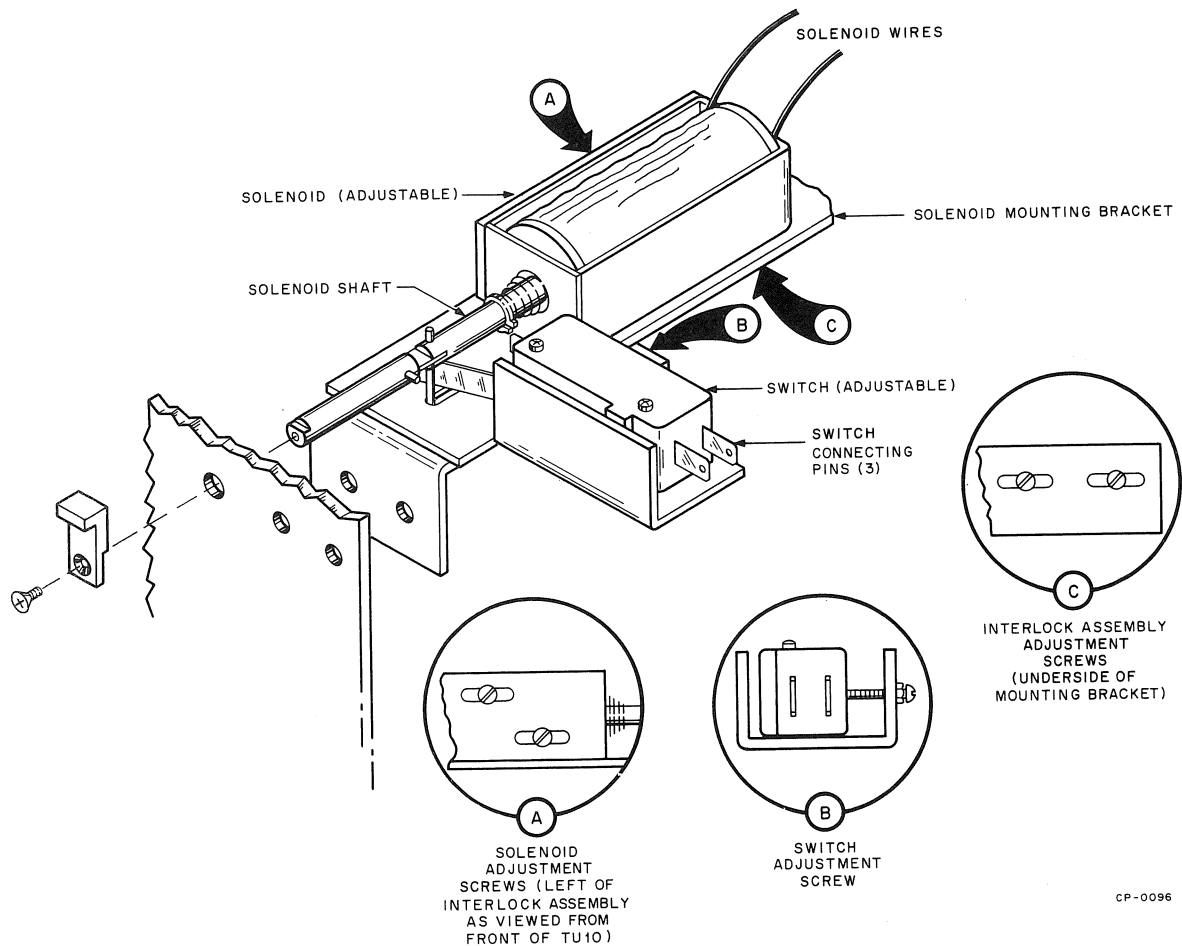

Figure 5-32 Read/Write Interlock Assembly
To perform the following adjustment, refer to Figure 5-32:
2. Loosen the locknut and adjusting screw several turns (see detail B, Figure 5-32).
5. Loosen the two solenoid mounting screws on the left of the interlock assembly (see detail A, Figure 5-32).
7. Loosen bottom screws securing the interlock assembly to mounting bracket (see detail C, Figure 5-32).